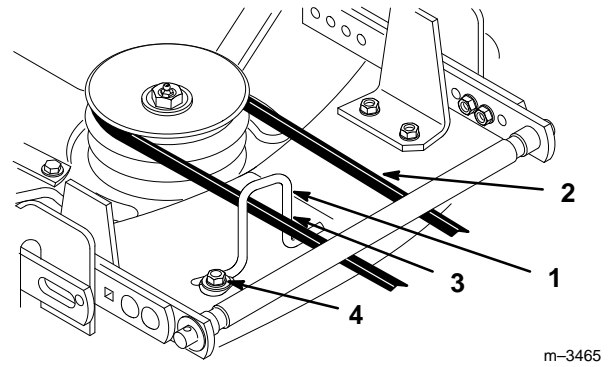

Figure 13
9. Loosen the belt guide bolt (Fig. 13).
10. Adjust the belt guide so that it just touches the belt on the inside arm of the guide (toward the center of the deck) (Fig. 13).